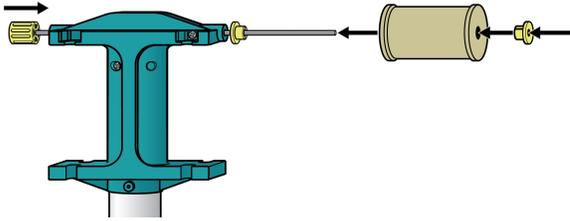

Figure 1
- a. Assemble the wind turbine with the nacelle set up for weight lifting, including connecting the weightlifter spool (see Figures 1 and 2). Do not attach the gears or generator.